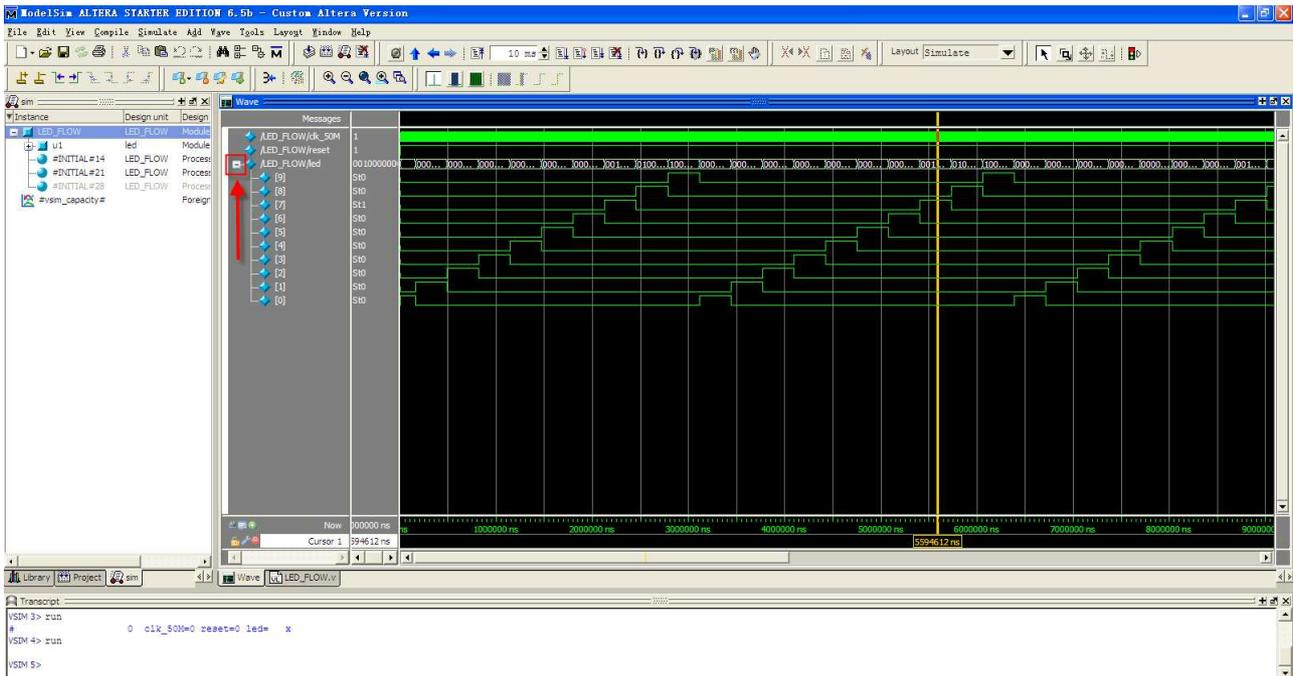

Figure 3.9 Expand the wave
10. Click on the **+** button pointed by a red arrow to expand the **LED_FLOW** wave, shown in Figure 3.9.